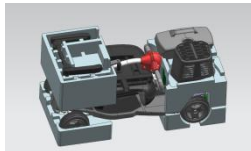

Figure 11.2
2.Fix the seat armrests and the bottom tube of the seat cushion respectively to the upper position of the folding device by means of custom foam and fix the battery and the basket to the upper position of the rear cover of the vehicle. Use two pieces of foam to elevate the battery as shown in (Figure 11.2).